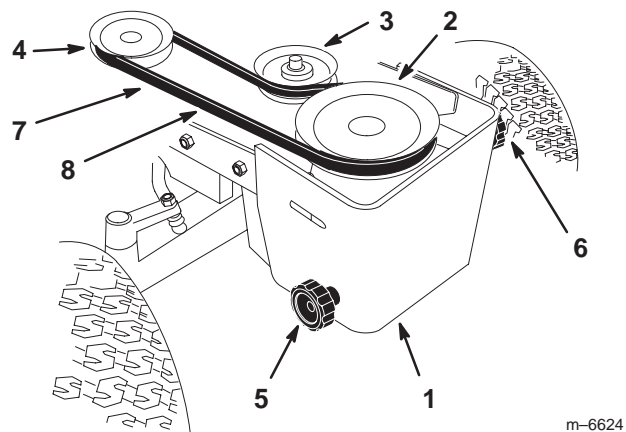

Figure 9
1. Install the PTO belt onto the clutch pulley (Fig. 9).
2. Install the PTO belt onto the upper pulley and upper idler pulley in the pulley box (Fig. 9).
3. Turn the left knob on the front pulley box to tighten the PTO drive belt (Fig. 9). There needs to be a 1/2 inch (13 mm) deflection in the belt.
4. Turn the right knob on the front pulley box to tighten the mower drive belt (Fig. 9). There needs to be a 1/2 inch (13 mm) deflection in the belt.